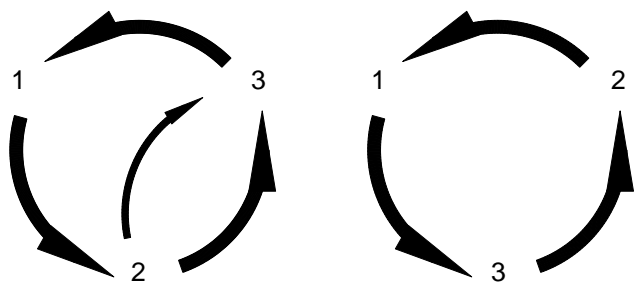

Figure 14
6. Press both cut buttons simultaneously to activate the motor and check to make sure it is turning the same direction as the arrow on the motor casing. If it isn't, disconnect the power and simply exchange any two leads of the power cord as in Figure 14. The motor will now turn the correct direction. Double check to make sure.